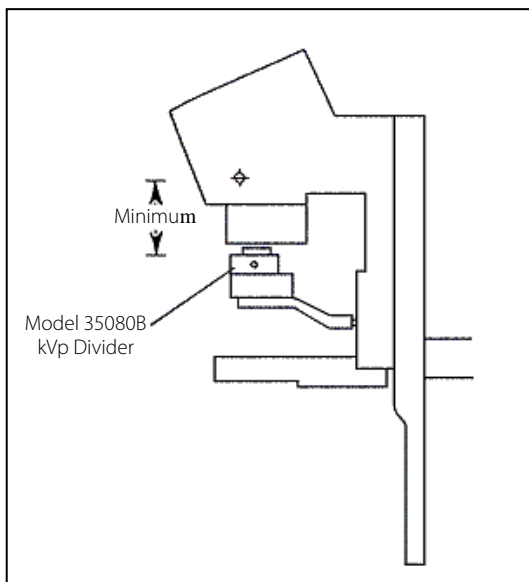

Figure 5-3. K-edge Measurement Setup
1. **Measurement Setup** - Place the Model 35080B kVp Divider in the x-ray beam on the compression paddle or other suitable support with the axis of the kVp Divider perpendicular to the axis of the x-ray tube. Raise the kVp Divider (with the Cadmium K-edge Mammo Filter Pack, 37355) as close as possible to the x-ray tube. The x-ray beam should cover the entire filter pack. (See Figure 5-3.)